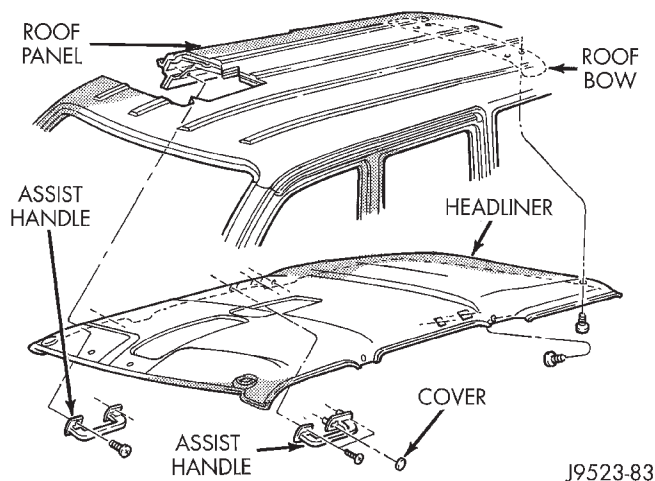
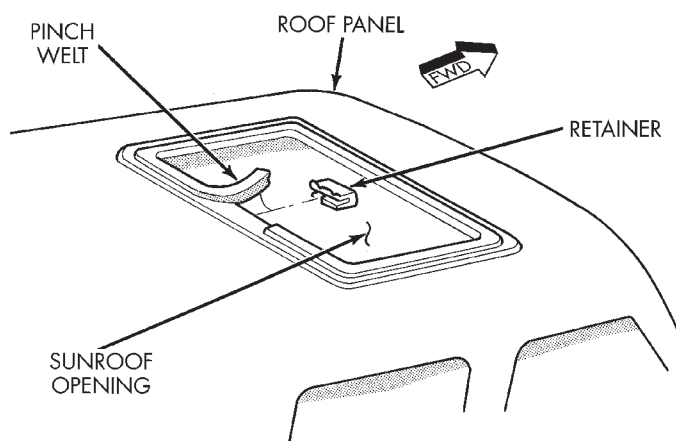

Fig. 58 Headliner
Fig. 59 Sunroof Opening
- (1) Remove the A, B and C-pillar trim moldings from perimeter of headliner.
(2) If equipped, remove sound bar. Refer to group 8F, Audio Systems for Service procedures.
(3) Remove upper liftgate trim molding.
(4) Remove D-pillar trim molding.
(5) Remove sunvisors from front of roof panel. Disconnect vanity lamp wiring (if applicable)
(6) Remove assist handles from side of roof rails.
(7) Remove push plugs from roof support (Fig. 58).
(8) Remove dome/reading lamp or overhead console from center of roof panel.
(9) Remove sunroof pinch welt holding headliner, if equipped (Fig. 59).
(10) With aid of an assistant, remove headliner through liftgate opening.